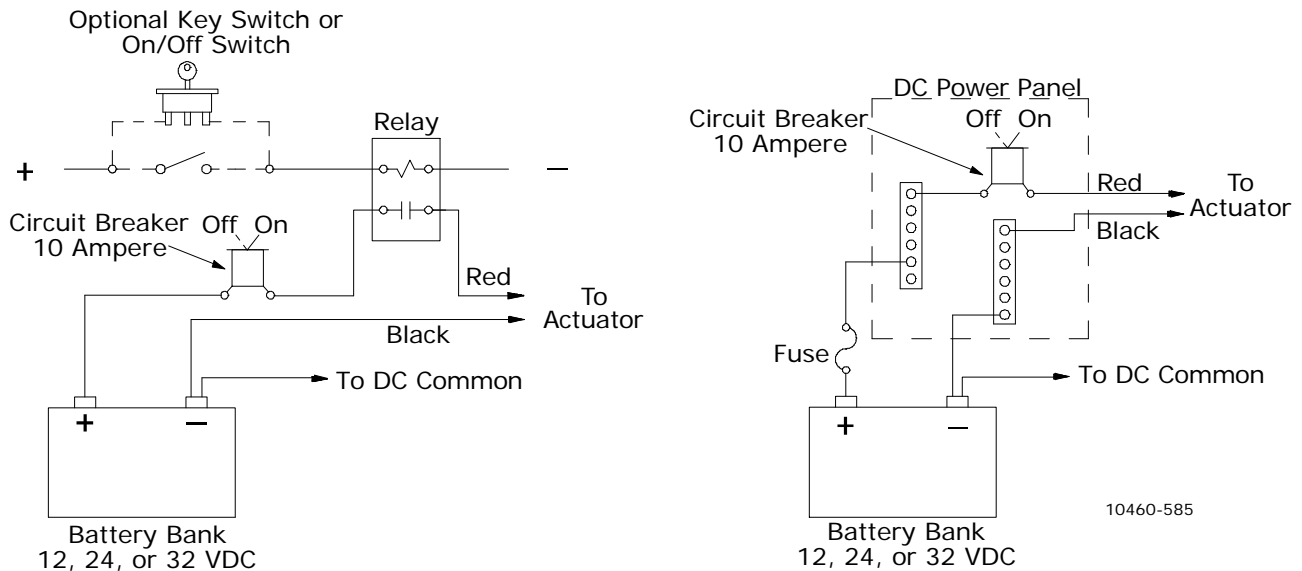

Figure 3 – Power Source
2.2.4 Control System Power 'ON' - 'OFF' (See Figure 3)
power connected directly to the Actuator. Examples are shown in Fig. 3. Use a relay with coil voltage to match your DC battery voltage. (Reference Section 11.)
When connecting the DC power cable to the Actuator be sure the power is 'OFF'. The (+) positive lead (red with purple stripe) connects the + DC power source to the Actuator. (See Figure 3) The (-) negative lead is black. The ferrite bead is fed onto the power cable before entering the Actuator. Tie wrap the power cable to the frame and tighten the cable grip.